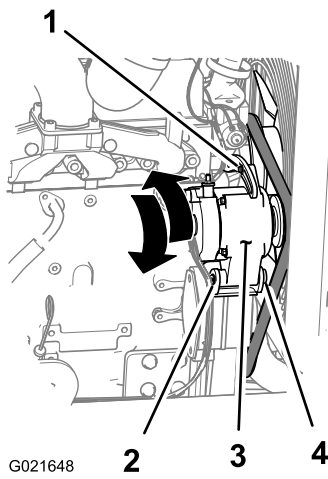

Figure 86
1. Loosen the nut and bolt at the pivot point for the alternator (Figure 86).
2. Loosen the adjustment bolt on the alternator (Figure 86).
3. Move the alternator away from the engine to increase the belt tension; move the alternator toward the engine to decrease the belt tension (Figure 86).
4. Tighten the alternator adjustment bolt (Figure 86).
6. If the belt tension is correct, tighten the nut and bolt at the pivot point for the alternator (Figure 86); otherwise repeat steps 2 through 5.
2. Loosen the nut and bolt at the pivot point for the alternator (Figure 86).
3. Loosen the adjustment bolt on the alternator (Figure 86).
4. Move the alternator toward the engine to loosen the belt enough so that you can remove it from the alternator pulley (Figure 86).